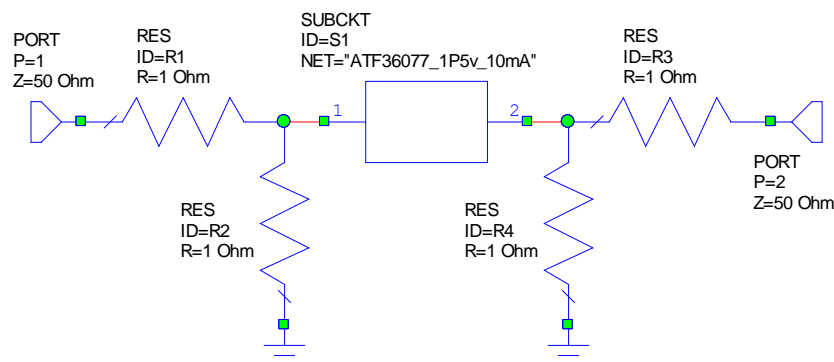

Fig. 13 All possible resistors potentially solving the instability of the transistors.
- Create a new schematic and place your transistor there. Then connect ONE of the resistors (NOT all) as shown in Fig. 13.